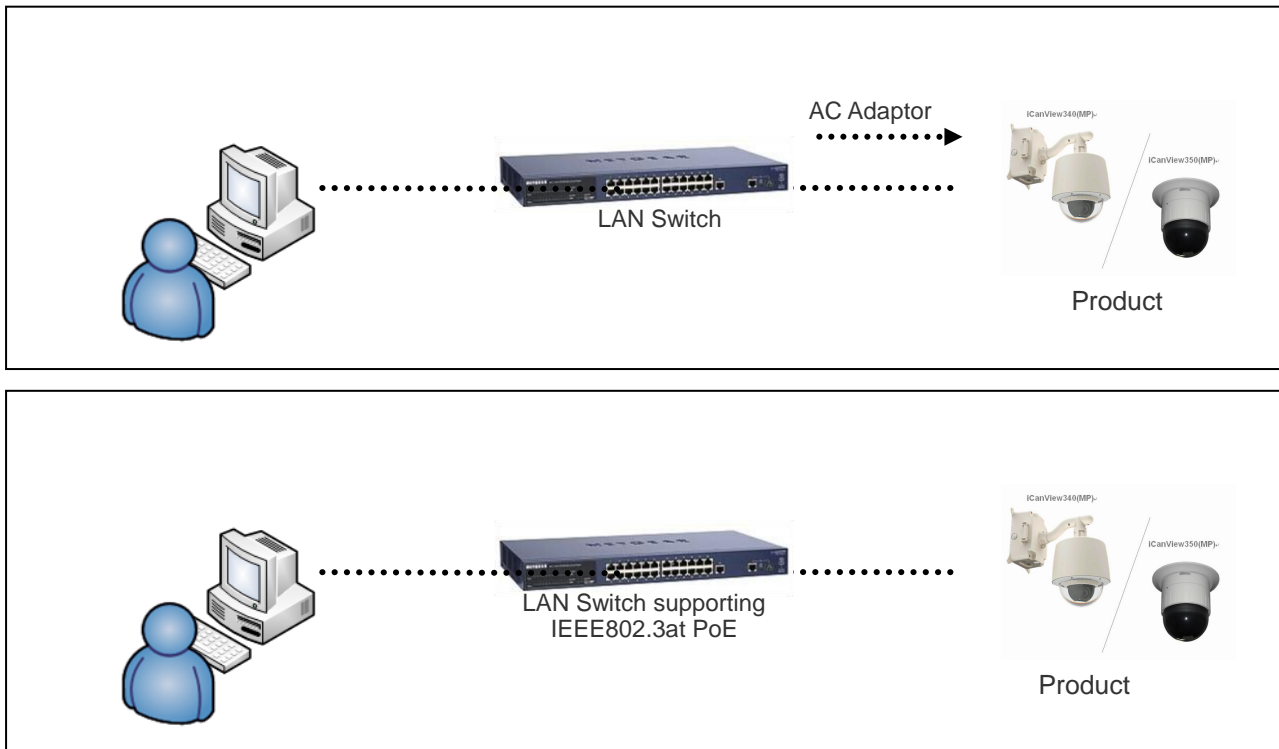

Fig 4-1. LAN Cable Connection Diagram
- II. Connect PC (or Lab-Top) with Product as Fig 4-1.